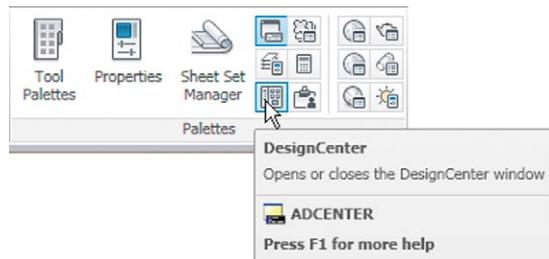
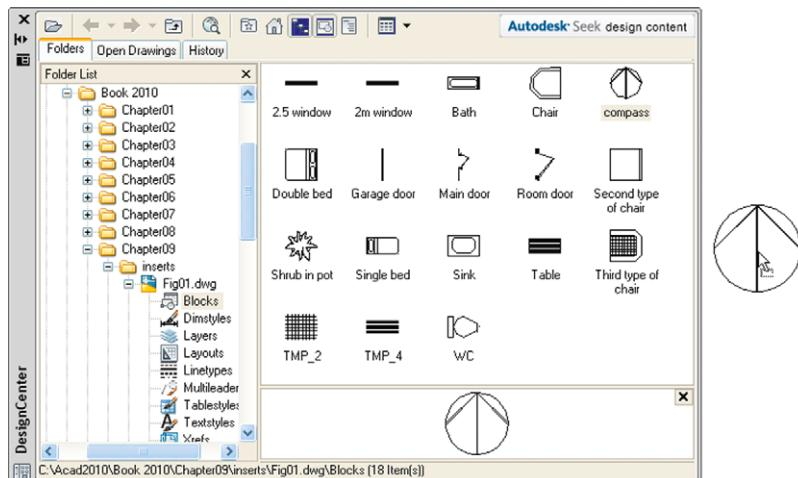

Fig. 9.9 Selecting DesignCenter from the View/Palettes panel
Fig. 9.10 The DesignCenter with the compass block dragged on screen
2. *Left-click DesignCenter* in the View/Palettes panel (Fig. 9.9) or press the **Ctrl+2** keys. The DesignCenter palette appears on screen (Fig. 9.10).